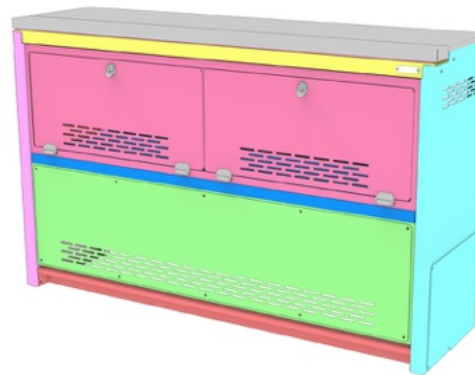

FIG 23
3.6 Choose Solid Panel / Bungee Configuration: You may choose to either install the **Solid Panel** or the **Bungee** to the **Panel Bezel**, depending on your needs. See **FIG 23** and **24** for visuals of both options.